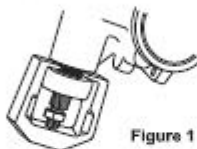

Figure 1
6. Position puller between Pitman arm and steering sector. See Figure 1.